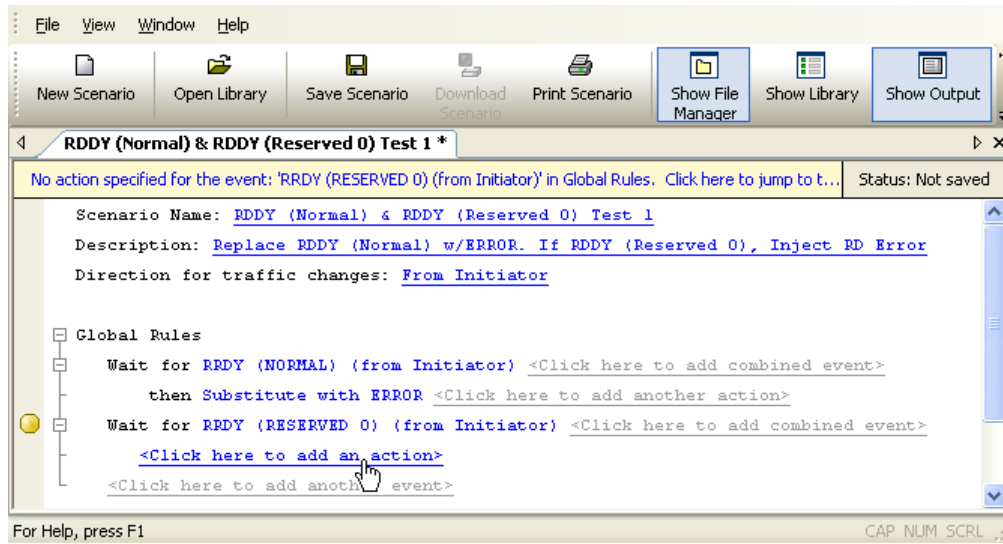

Figure 5.23 Example 4: Entering Second Action
Step 6 In the Global Rules area, click on the prompt to **add an action** to be triggered by the RRDY (Reserved 0) (Figure 5.23).